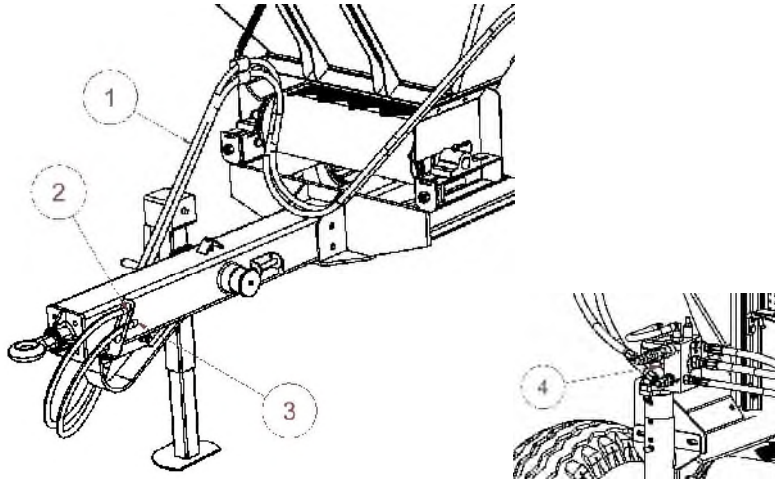
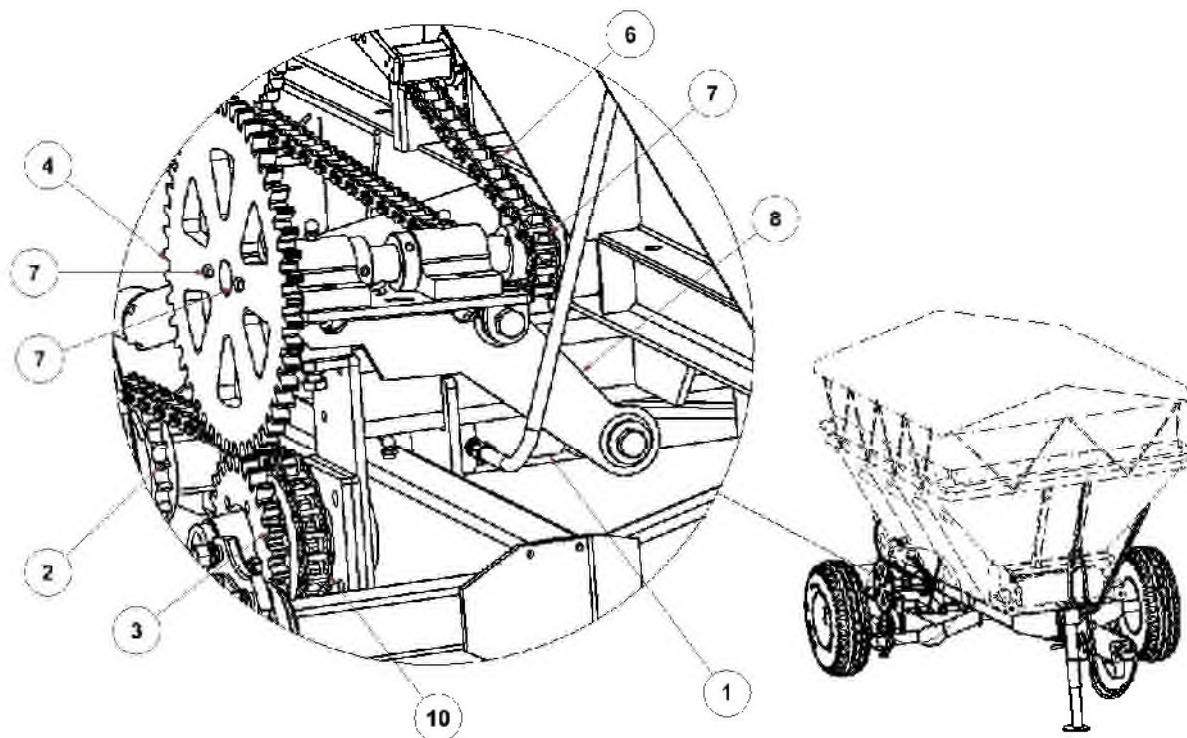

Figure 4 - Hoses
Figure 5 - Drive Assembly
17. The spreader hydraulic system is powered from the tractor hydraulic system via two hydraulic hoses (1) (Fig 4). The functions and operation of the spreader are controlled from the tractor.
- Figure 5 details the drive assembly (8) in the disengaged position. The drive is held in the engage position by a hydraulic cylinder (1) (Fig 5).
- The right rear spreader wheel powers the feed belt via drive chain (10) driven from the wheel sprocket (2) to the idler sprocket (3) (Fig 5).
- When the spinners are engaged, the drive assembly (8) is lowered and meshes the large gear (4) with the small gear (3) that rotates on the idler shaft. When the spinners are disengaged, 2 x springs under the saddle lift the gear assembly to the position shown in Fig 5 allowing engagement cylinder (1) to vent oil back thru the main return line (3) (Fig 4).